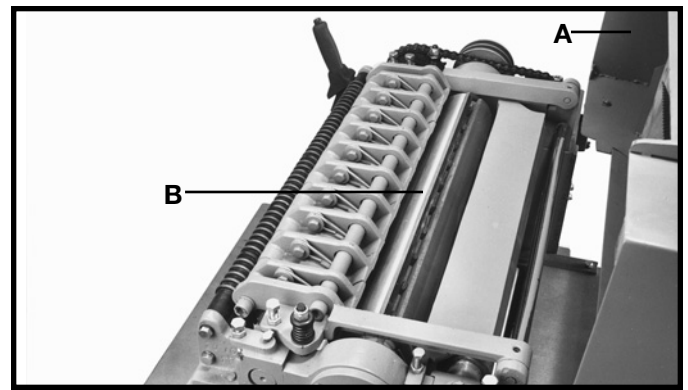

Fig. 33
2. Remove locking screw (E) Fig. 4, and raise top cover (A) Fig. 33, to expose cutterhead (B).